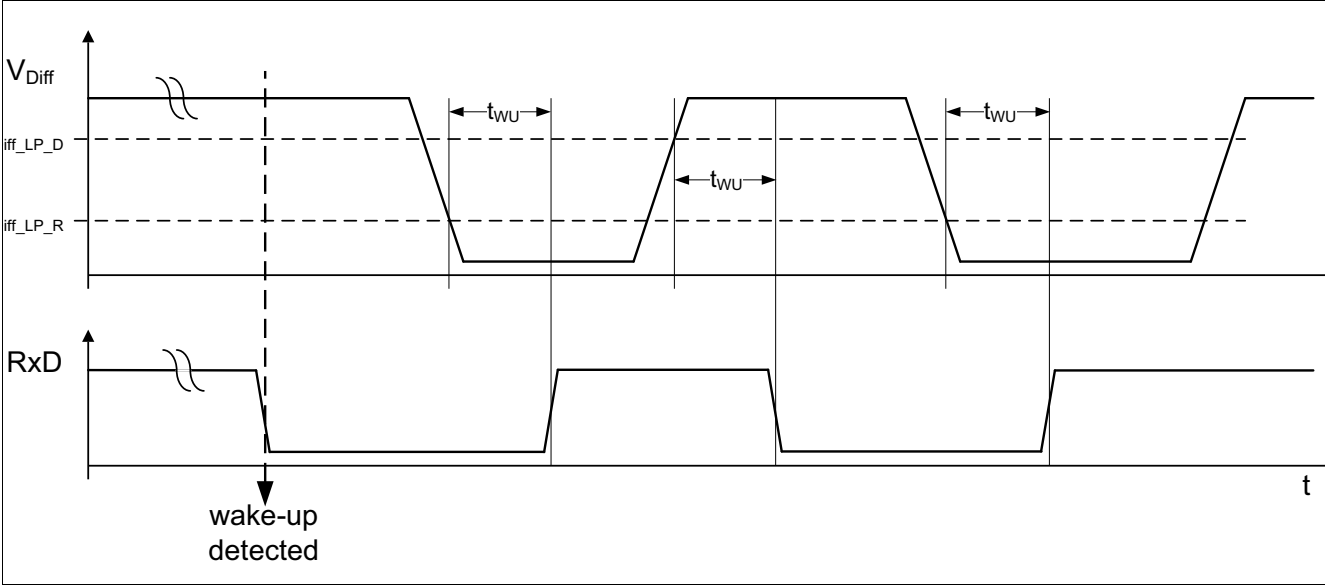

Figure 7 RxD signal after wake-up detection
- The low power receiver is enabled and monitors the HS CAN bus for a valid wake-up pattern (WUP). The RxD output pin indicates the detection of a valid wake-up pattern (Chapter 5.4). As long as no wake-up event is detected, the default of the RxD output is "high". After detecting a wake-up, the RxD follows the bus with a certain delay (see Figure 7).
After the device detects a wake-up event the RxD output follows the CANH/CANL input pins. Dominant and recessive signals are indicated on the RxD output as "high" and "low" with the delay of t_{WU} as long their pulse width exceeds the filter time t_{Filter} (see also Figure 7).